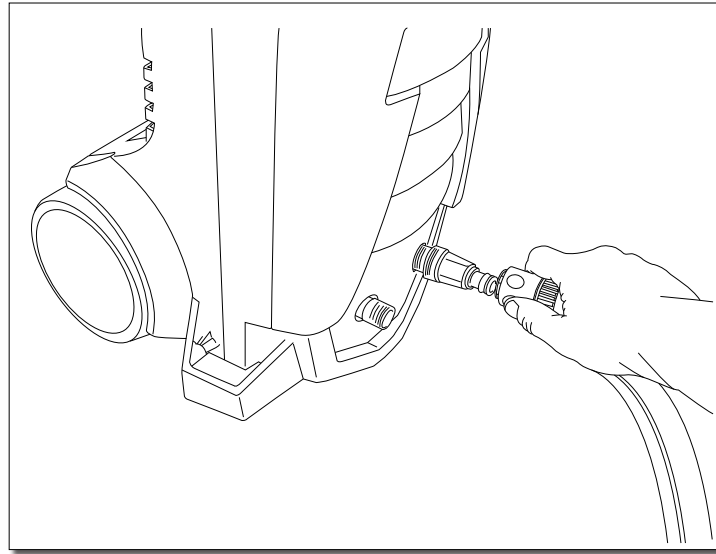

Fig. 15
- First, remove the plastic shipping cover on the water inlet on the front of the power washer on the right side. Hand tight is fine. Slide the blue/black collar onto the clear adapter (**Fig. 15**), it will “click” into place.